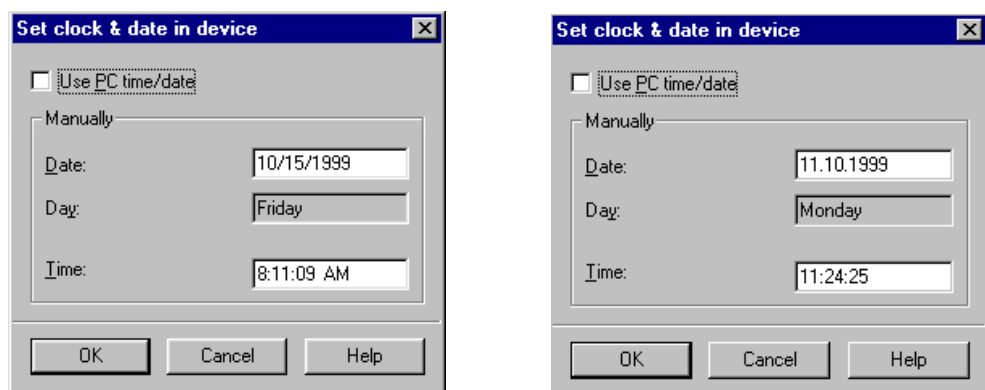

Figure 3-12 DIGSI® 4 — Dialog Field: **Set clock & date in device**
- Edit the input fields **Date** and **Time**. The format depends on your regional settings of the PC. See Figure 3-12.